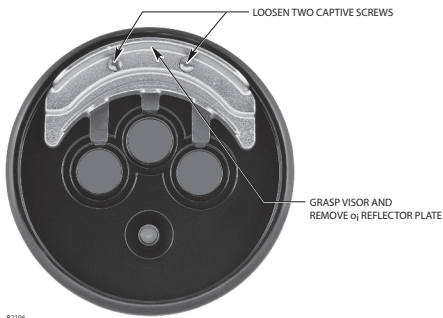

Figure 19— O_i Reflector Plate Removal
2. Loosen the two captive screws, then grasp the o_i reflector plate by the visor and remove it from the detector. See Figure 19.